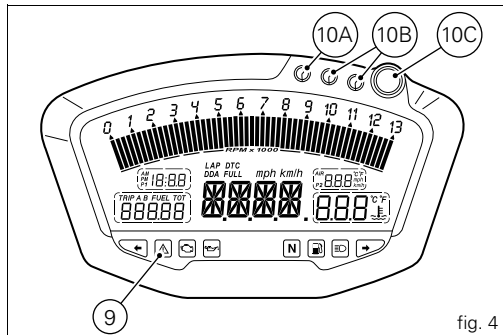

fig. 4
In the event of a sensor FAULT (-40°C , $+125^{\circ}\text{C}$ or disconnected), a string of dashes " - - - " (not flashing) is displayed and the "Engine diagnosis - EOBD" light comes on (8, fig. 4).
- If reading is $-40\text{ }^{\circ}\text{C}$ ($-40\text{ }^{\circ}\text{F}$) or less, the display shows a string of flashing dashes ("---") and the "Engine diagnosis - EOBD" light (8, fig. 4) comes on;